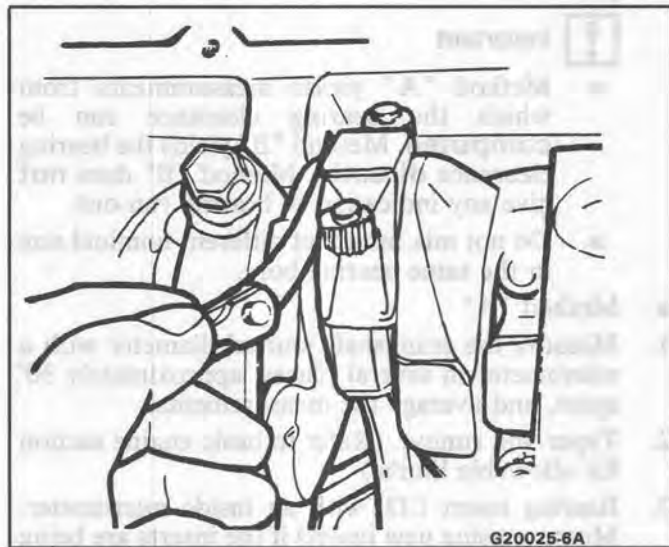

Figure 29 Measuring Connecting Rod Side Clearance (Single Rod Journal)
- Connecting rod side clearance (Figure 29, 30)